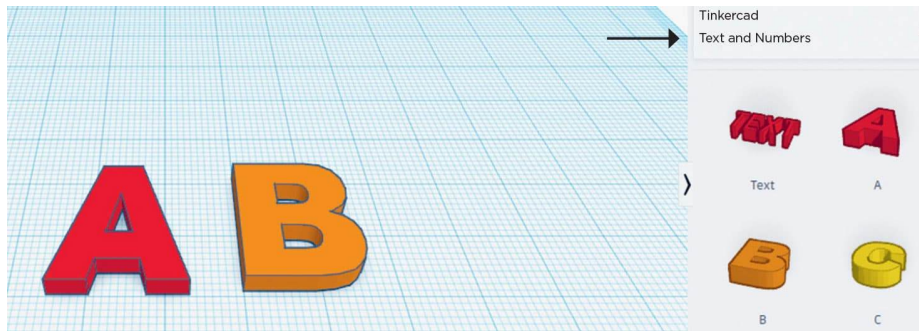

FIG. 1: Tinkercad has tools for letters and numbers.
2. Design these shapes using the **Text and Numbers** tool on the same workplane. The length of each letter should be 20 mm, height 3 mm, and the width should be in proportion to the shape of the letter (fig. 1).